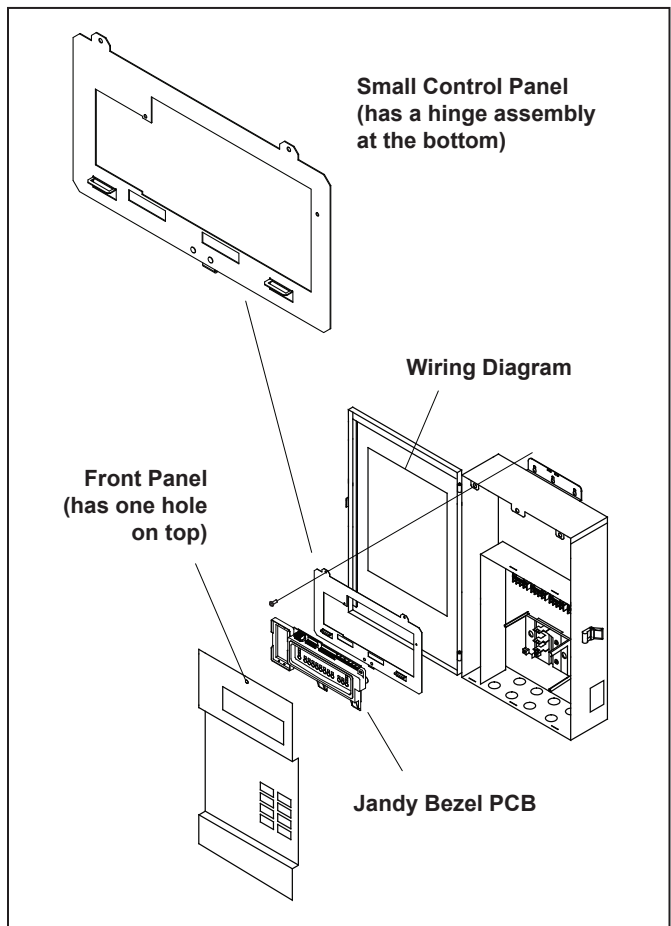

Figure 2. EOS Power Center
The installation kit contains all parts required to modify an EOS power center and a small or large SOL power center. Before starting this procedure, refer to Figures 2, 3, and 4 to identify which parts go with the Polaris model being modified.
6. Secure the small control panel with the Jandy PCB to the Polaris power center. See Figures 2, 3, and 4.
8. If applicable, rewire the red 4-pin terminal bar to the same four (4) wires that were used to wire the wireless indoor controller.